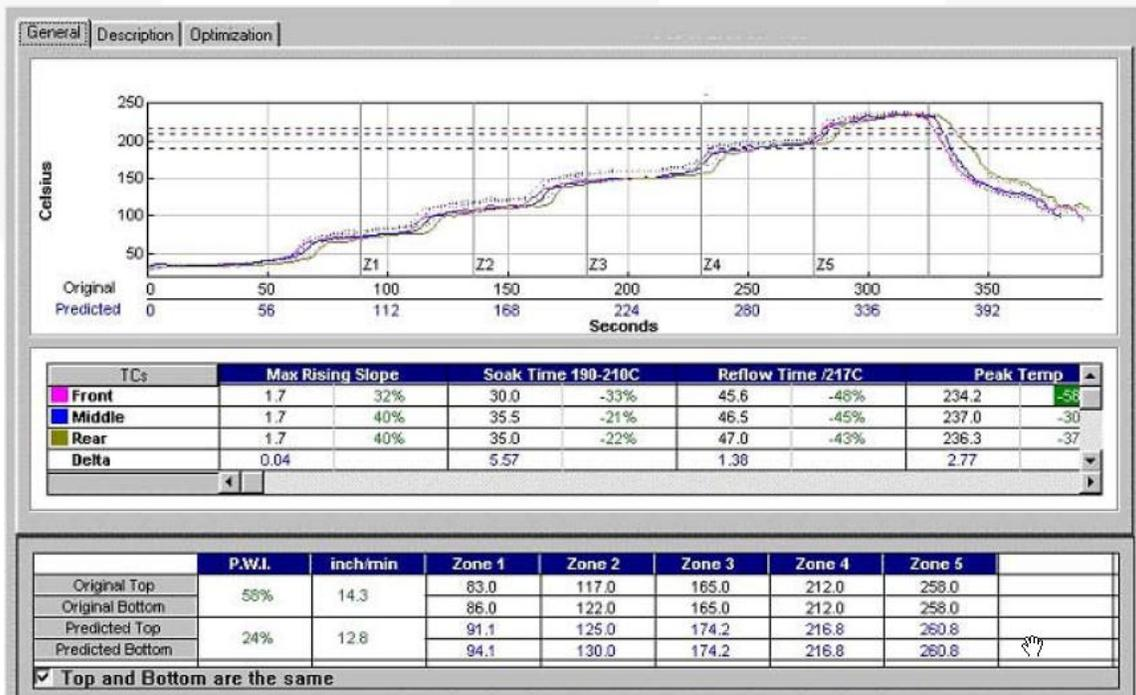
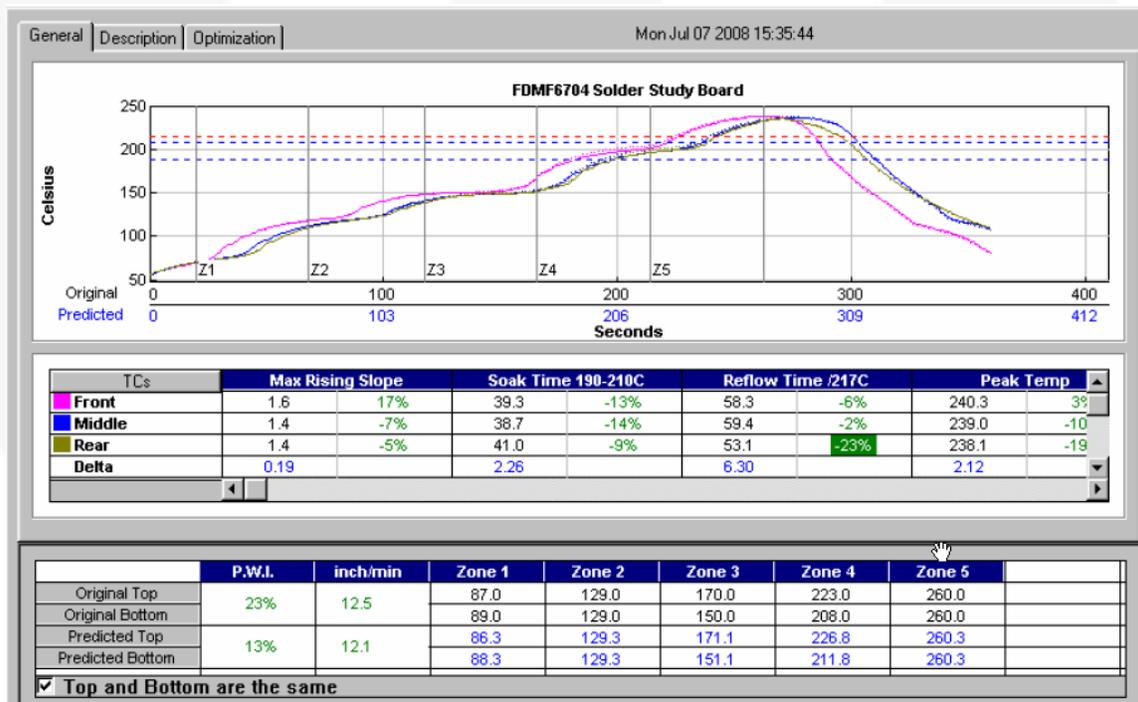

Figure 3. Fairchild-Derived Profile for 8x8 Multi-DAP QFN (MLP) Using SAC305 Solder Paste
Figure 5. Fairchild-Derived Profile for 6x6 Multi-DAP QFN (MLP) Using SAC 305 Solder Paste.
- The difference in this profile compared to the one for the 8 x 8 version of the same package technology in Figure 3. The reflow time in Figure 5 is 53-59 seconds compared to 45-47 seconds for the bigger package in Figure 3.